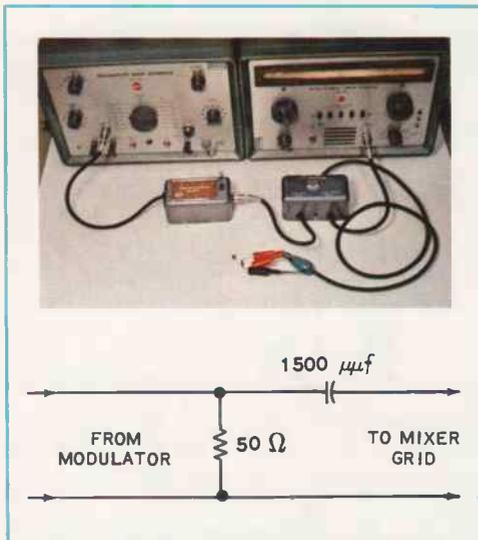

FIG. 12-5. The signal source for VSM alignment. The matching pad shown in the detail connects the output of the modulator to the grid of the mixer stage.
The sweep signal is fed through an absorption-type marker box, as shown in Fig. 12-5. The marker box extracts energy from the sweep signal at key marker frequencies. This produces tiny dips in the response curve at frequencies of interest. A marker box made specifically for this purpose is the RCA WG-295C. Individual marker frequencies are identified by touching small buttons on the marker box. This causes one of the tuned circuits to be loaded, and the marker pip associated with that particular frequency changes in amplitude.
cepts a video and an r-f input. The output signal is a conventional amplitude modulated signal (both upper and lower sidebands are produced). The r-f modulator shown in Fig. 12-5 is an RCA WG-304B.
45.75-mc signal to the grid of the mixer stage in the receiver. The pad shown in Fig. 12-5 terminates the cable of the modulator and swamps out the tuned circuits in the grid circuit of the mixer stage.